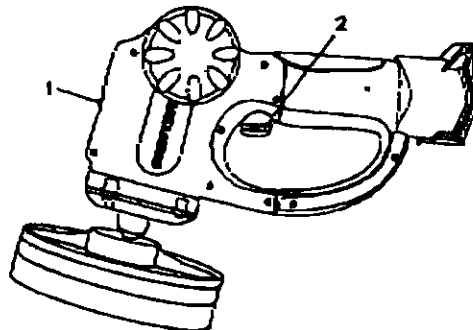

Fig. 5
1. Set the speed control switch (1) to the desired speed. Push speed control switch down for slow speed operation (see Fig. 5). Pull speed control switch up for higher speed operation.